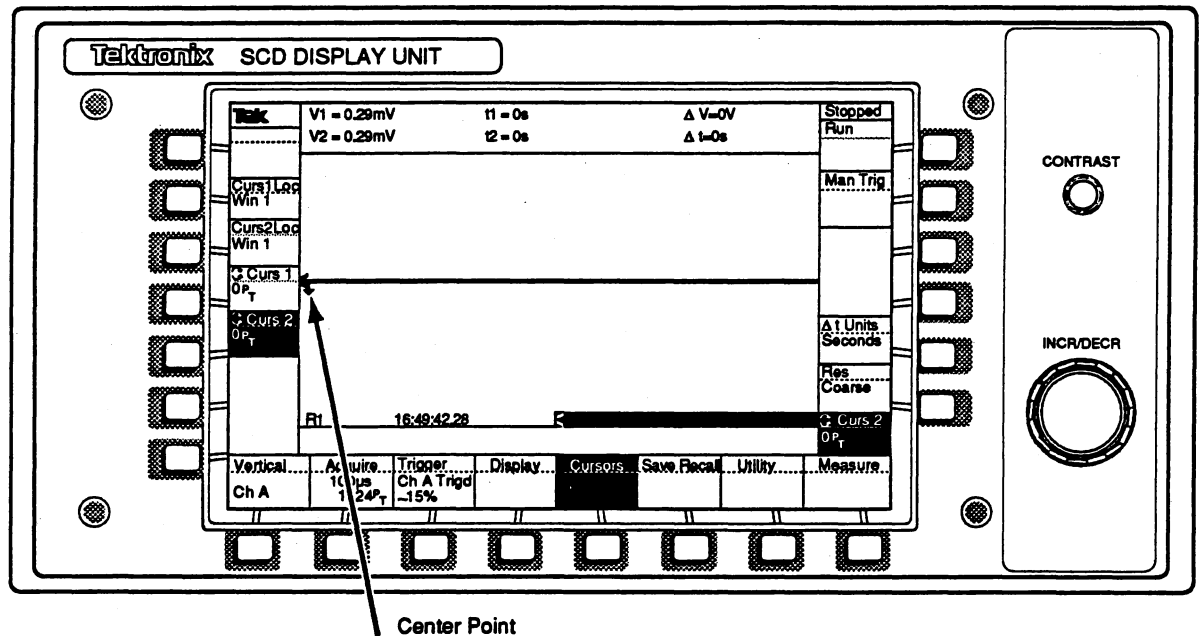

Figure 5-26: Vertical Centering Adjustment
6. Adjust cal constant 10 (Y position) to center the displayed trace on the screen. Cal constant 10 is nominally 127. Use the cursors or internal SCD measurements (Mean) to help make this measurement as shown in Figure 5-26.